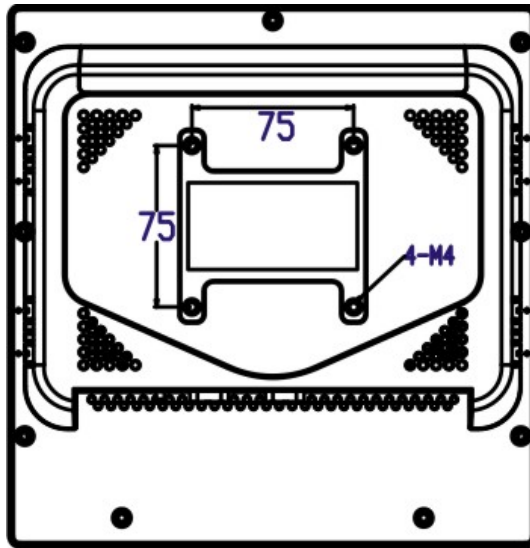

Figure 4-18: ACT-08A-ATOM Arm Mounting Retention Screw Holes
Step 3: Align the retention screw holes on the mounting arm interface with those in the flat panel PC. The ACT-08A-ATOM arm mount retention screw holes are shown in **Figure 4-18**.